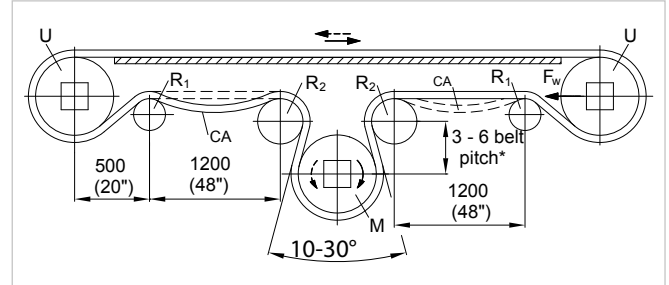

Figure 140
- **Bi-directional center drive (Fig. 140)**